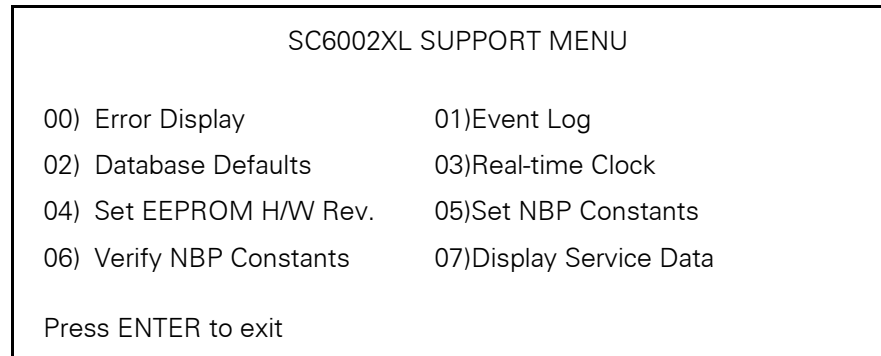

Figure 3-21 Support Menu (Item numbers may differ in different versions of installed software.)
4. When "Enter Password" prompt displays, type in **7412** and press <Enter> to bring up SC6002XL SUPPORT MENU (See Figure 3-21).